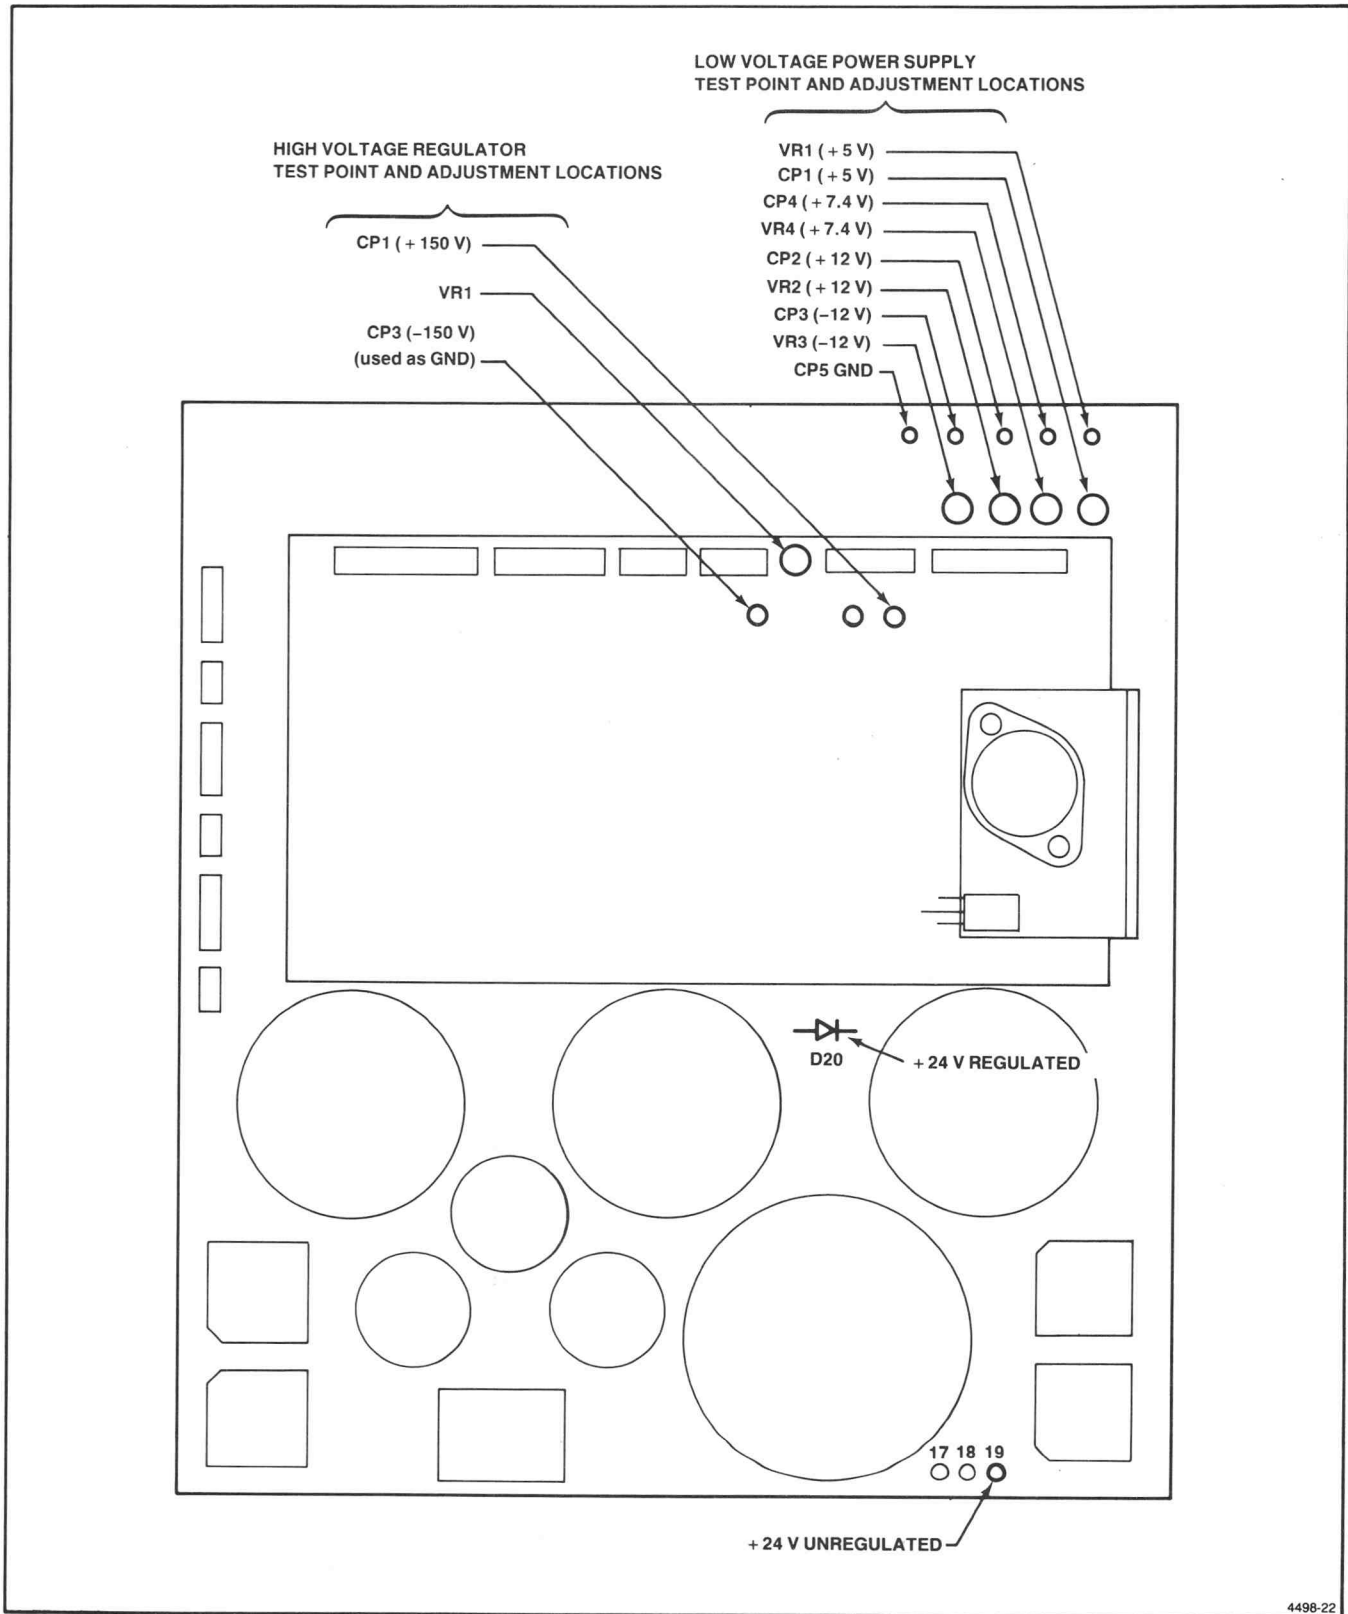

Figure 5-4. Power Supply Test Point and Adjustment Locations.
3. Attach the ground lead of a DVM to CP5 (see Figure 5-4).
5. Check the voltage on Pin 19 for +24 Vdc (unregulated) and on the cathode of D20 for +24 Vdc (regulated)(see Figure 5-4 for the location of these test points).
1. Attach the common or low lead of a DVM to CP3 of the High Voltage Regulator circuit board (see Figure 5-4).
2. Measure the voltage on CP1 and adjust this voltage with VR1 (see Figure 5-4) until the voltage reads between +299 and +300 Vdc.